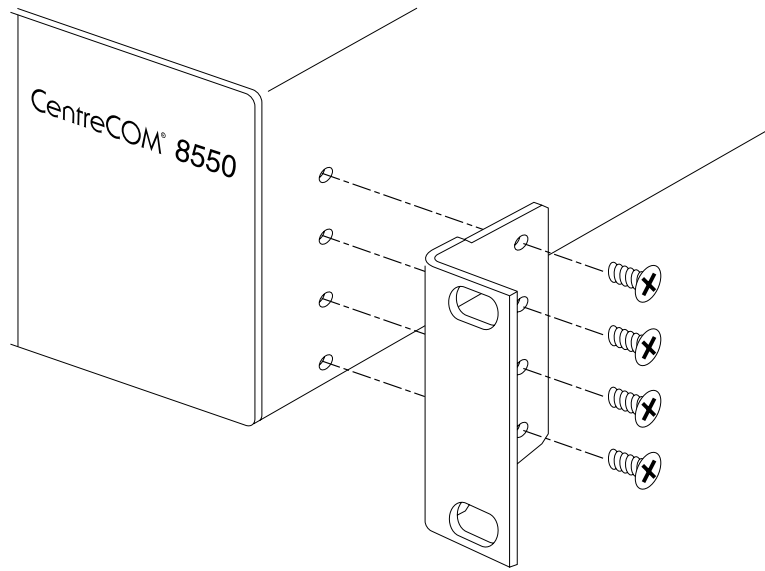

Figure 2-1 Fitting the Mounting Bracket
3. Insert four flathead screws and fully tighten with a suitable screwdriver, as shown in Figure 2-1.